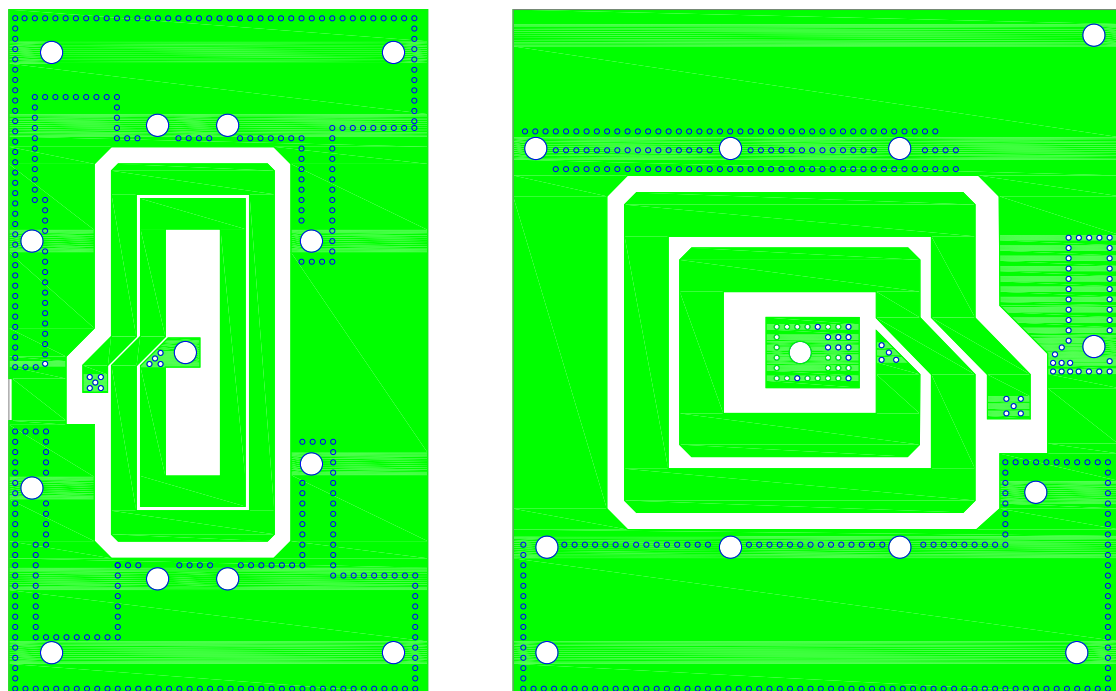

Figure 6 PCB layout bottom layer
- Figure 6 PCB layout.....bottom layer 9